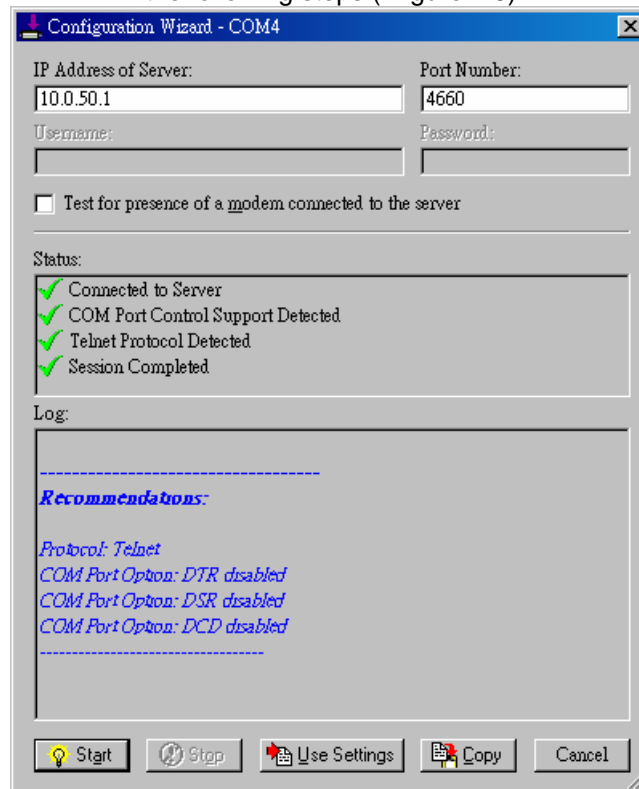

Figure 4.5 Configuration Wizard
One configure each Serial/IP COM port as follows: (Figure 4.5)
5. Click the **Configuration Wizard** button and then click the **Start** button that appears in the wizard window. This important step verifies that the Virtual COM Redirector can communicate with the serial server using the settings one have provided. If the **Log** display does not show errors, click the **Use Settings** button in the wizard, which makes the recommended settings effective and returns one to the Control Panel to continue with the following steps.(Figure 4.5)